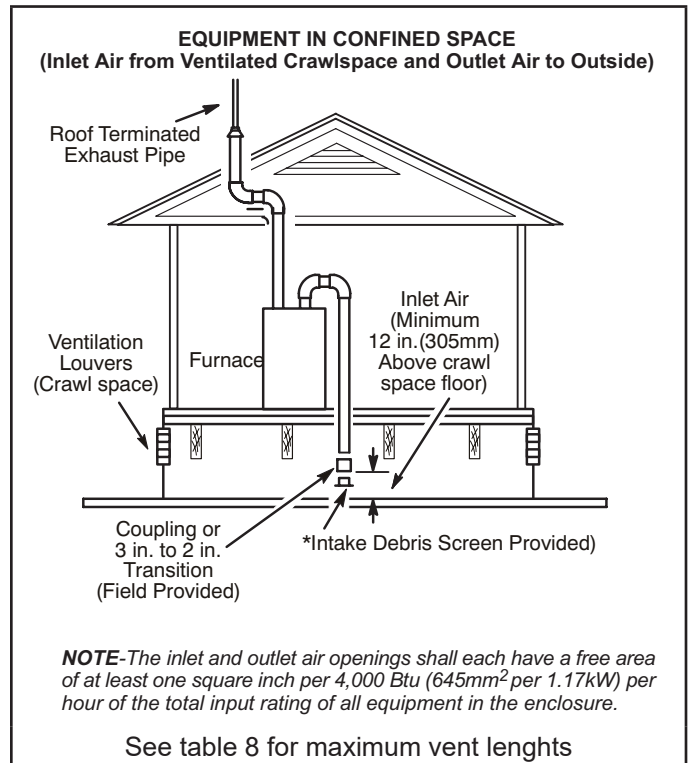

FIGURE 30
- 2 - If intake air is drawn from a ventilated crawlspace (FIGURE 30) or ventilated attic (FIGURE 31) the exhaust vent length must not exceed those listed in table 9. If 3" diameter pipe is used, reduce to 2" diameter pipe to accommodate the debris screen.